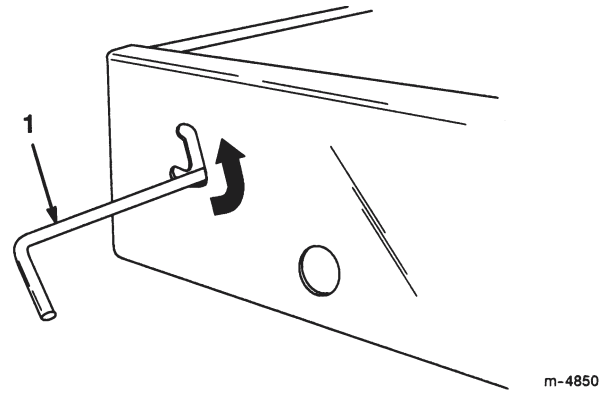

Figure 9
1. Slide the latch upward toward the top of the cutout in the bed frame (Fig. 9).